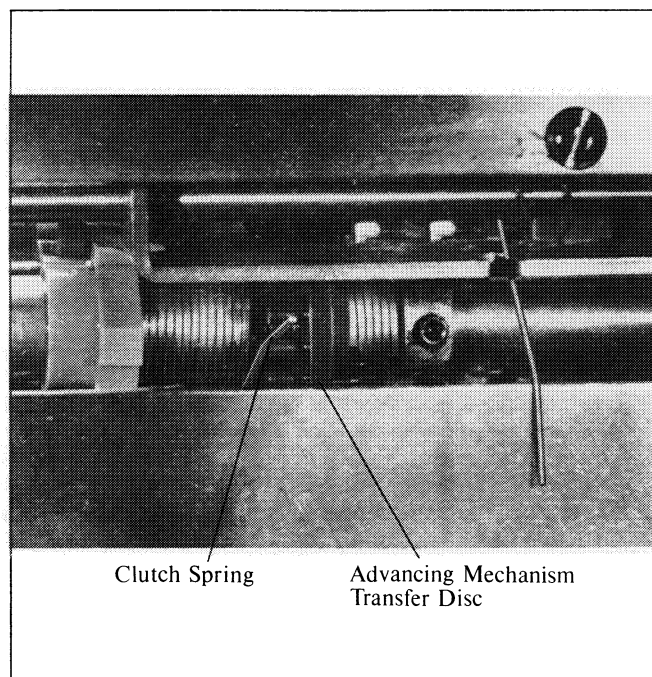

Figure 17. Adjusting Sales Number Advancing Mechanism
1. Sales number advancing mechanism, Figure 17, is tripped when printing occurs. The movement of the sale advance wheel starts immediately with rotation of the input shaft and completes transfer within ¼ of a revolution. If the sales number on the right-hand wheel does not align properly with the other wheel, it must be adjusted.